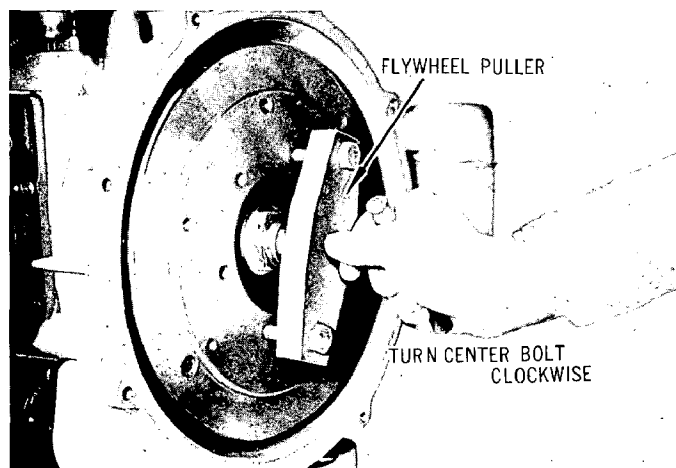

Fig. 6-4-7
- 2) Attach flywheel puller to flywheel as shown in Fig. 6-4-7, and turn center bolt clockwise until flywheel becomes sufficiently loose to be removed. Knock key off crankshaft.